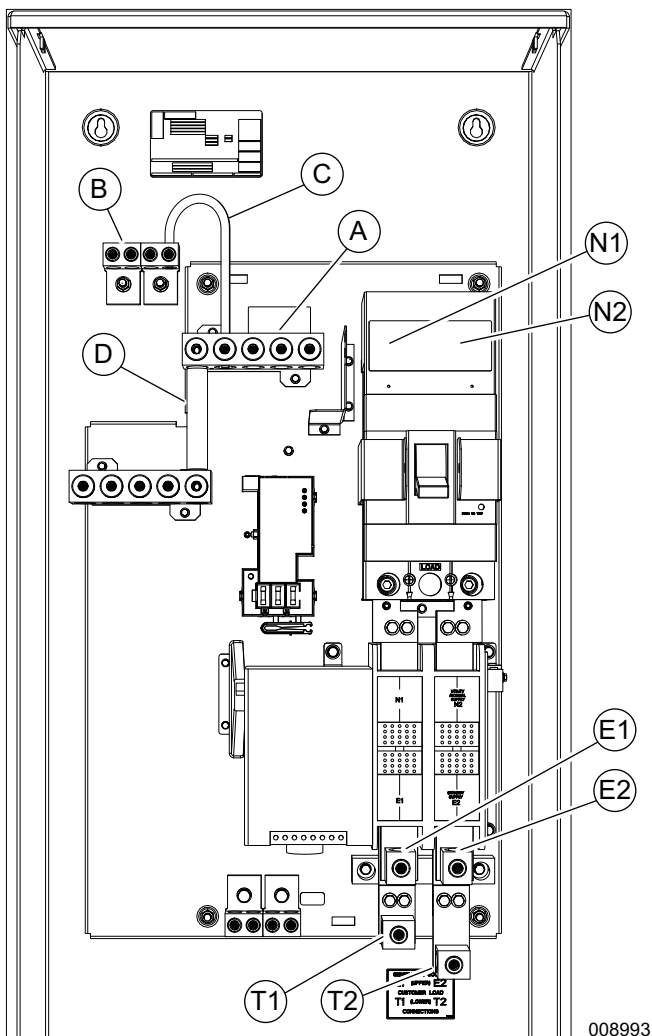

Figure 3-2. Wiring Connections
2. See **Figure 3-2**. Connect utility neutral and ground to the upper neutral (A) and ground (B) terminals. Neutral and ground terminals are bonded to each other with a jumper wire (C).